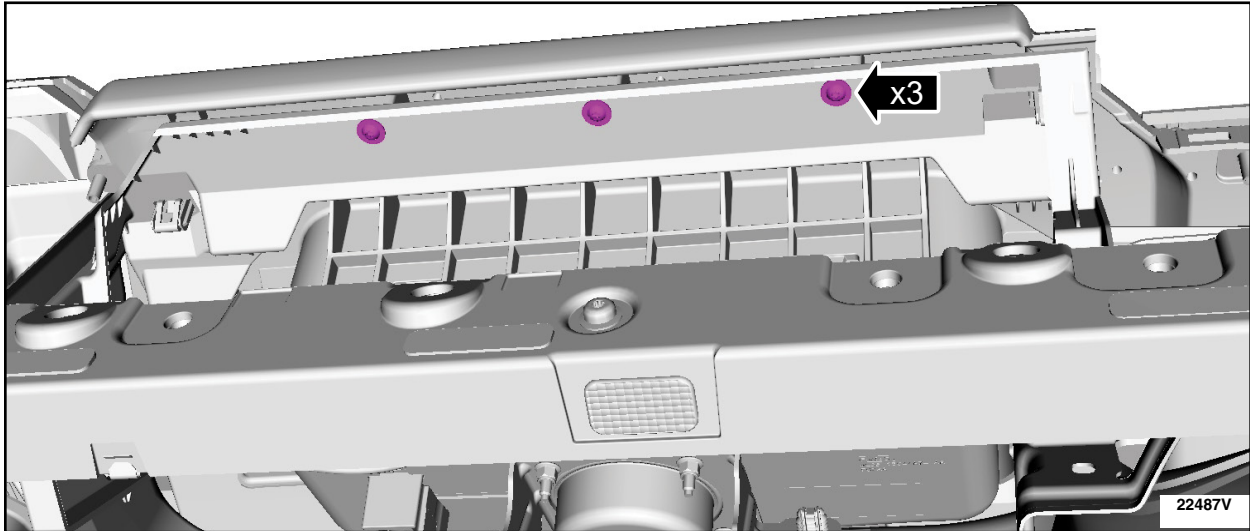

FIGURE 20
21. Remove the screws through the upper stowage bin opening. See Figure 20.